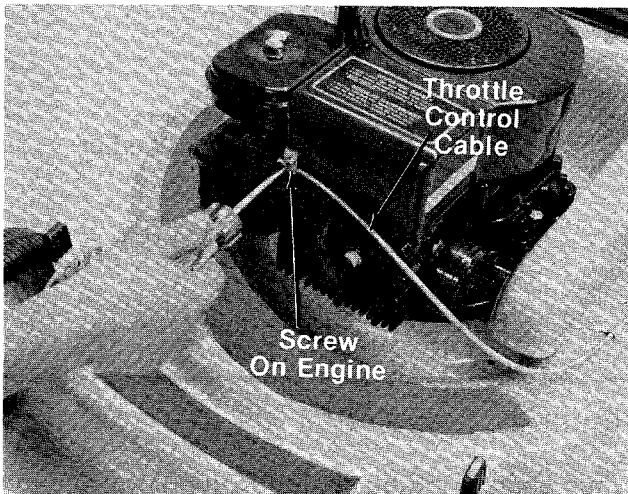

FIGURE 22.
1. Loosen, but do not remove, the screw securing throttle control wire assembly at engine. See figure 22.